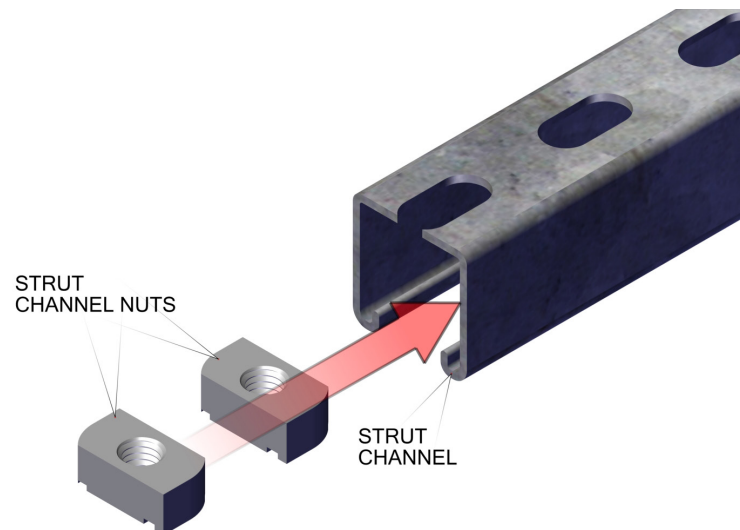

Figure 21
- Insert two strut channel nuts into each ends of the strut channel, see Figure 21.